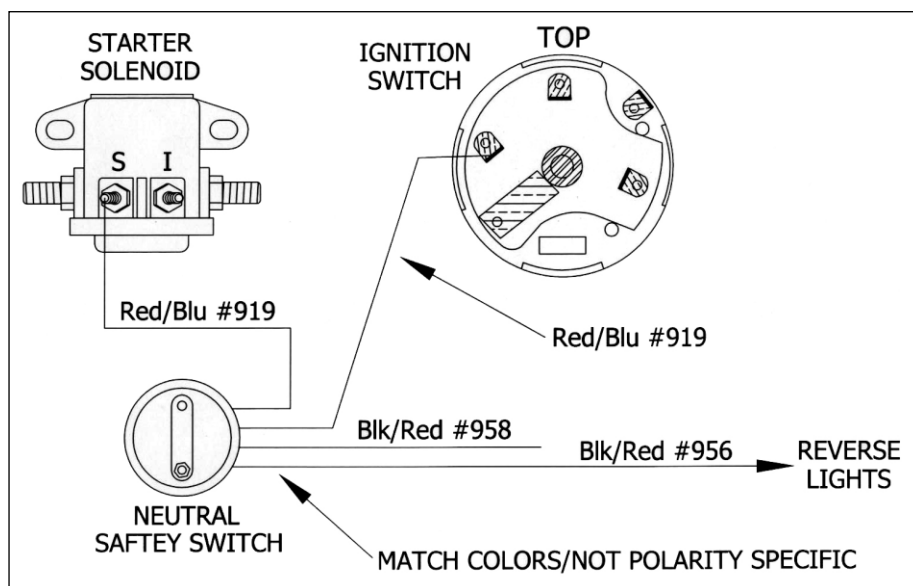

Figure 7-7 NEUTRAL SAFETY SWITCH
- 7.3.6** Neutral Safety/Backup Light Switch wire #'s 958, 956 and 919 (2 wires) all breakout from the firewall in the ENGINE SECTION. #958 is the power source to the switch for the backup lights and #956 is the wire connected to the actual bulbs. Wire **IGNITION SWITCH START #919** comes from the start terminal on the Ignition Switch and provides the start signal to the Neutral Safety switch. Wire **STARTER SOLENOID #919** carries the start signal from the Neutral Safety switch to the Starter Solenoid. **See Figure 7-7.**